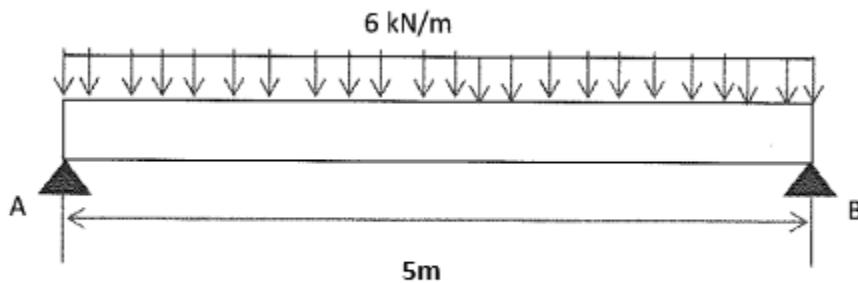

Figure 3(c) /Rajah 3(c)
- (c) **CLO2** **Figure 3(c)** shows 5m simply supported beam with distributed load of 6kN/m along the beam. Given $EI = 72.917 \text{ kNm}^2$. By using the formula, determine the slope in degree unit at point B is the beam length were **decreased 20%**.